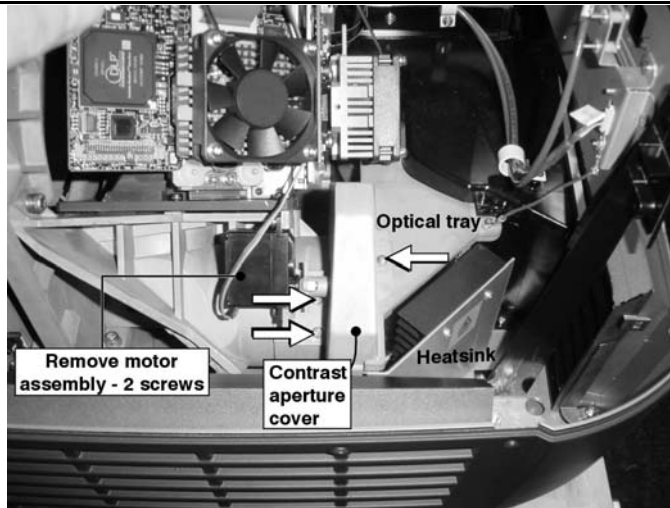

Figure 12. Accessing the Contrast Aperture Assembly
3. Remove the screw securing the contrast aperture cover to the optical tray top cover. (Figure 12.)
5. Remove the two (2) screws securing the motor assembly from the contrast aperture cover. (Figure 12.)